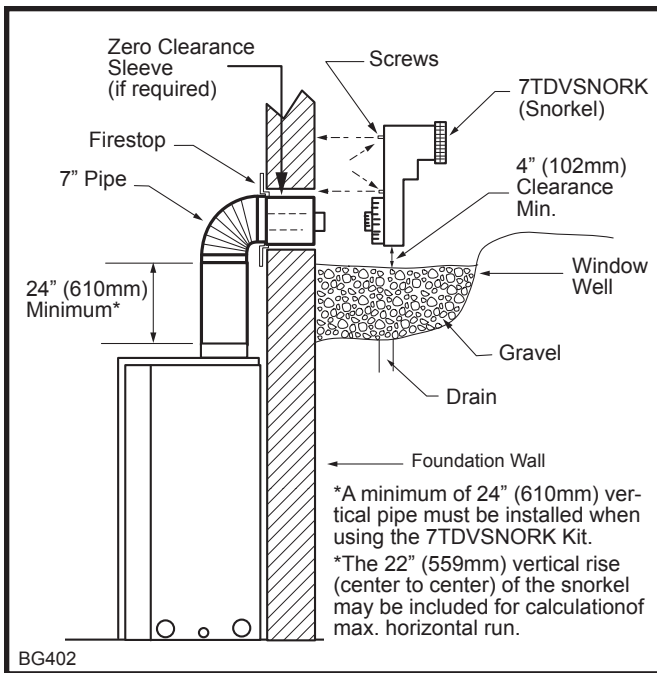

Fig. 29 Below grade installation.
2. Remove soil to a depth of approximately 16" (406 mm) below base of snorkel. Install drain pipe. Install window well (not supplied). Refill hole with 12" (305 mm) of coarse gravel leaving a clearance of approximately 4" (102 mm) below snorkel. (Fig. 29)
7. Level the soil to maintain a 4" (102 mm) clearance below snorkel. (Fig. 29)